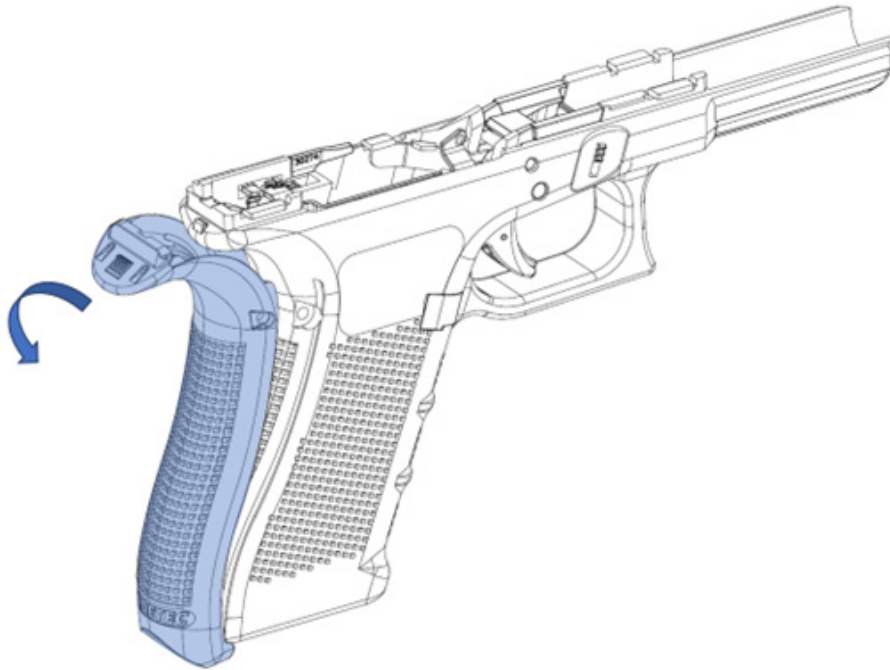

Figure 111: Backstrap disassembly procedure.
3. Grip the Backstrap tail and push it down carefully (Figure 111).